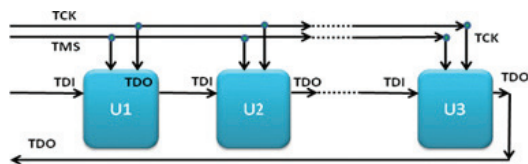

Figure 1. A boundary scan chain
A boundary scan chain consists of two or more boundary scan integrated circuit (IC) devices where the test data output (TDO) of the first boundary scan device in the chain is connected to the test data input (TDI) of the second boundary scan device to form a chain. The test mode select (TMS) and test clock input (TCK) signals are common for all the boundary scan devices in a chain. See Figure 1.